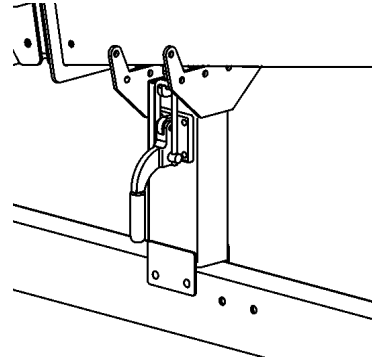

Figure 3-5. Boom Travel Latch
- ❑ Pull the latch release on the boom travel latches, raise the latch handle and swing the latch U-bolt down. Refer to figure 3-5.